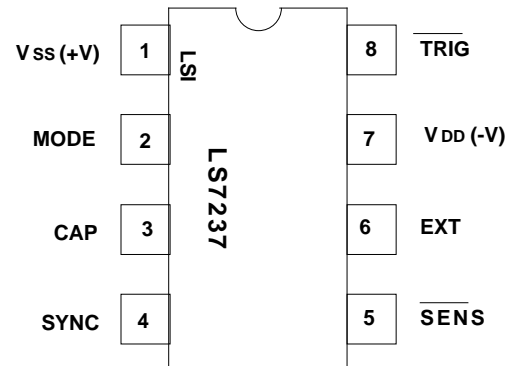

FIGURE 1
- LS7237 (DIP); LS7237-S (SOIC) - See Figure 1